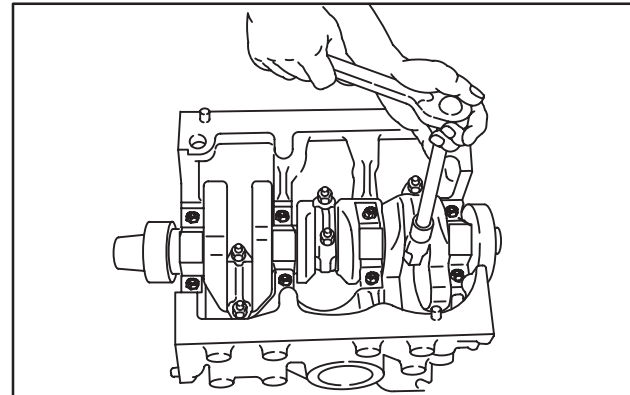

Fig. 6 – Removing Connecting Rod Assembly
9. Remove connecting rod and piston assemblies, Fig. 6.